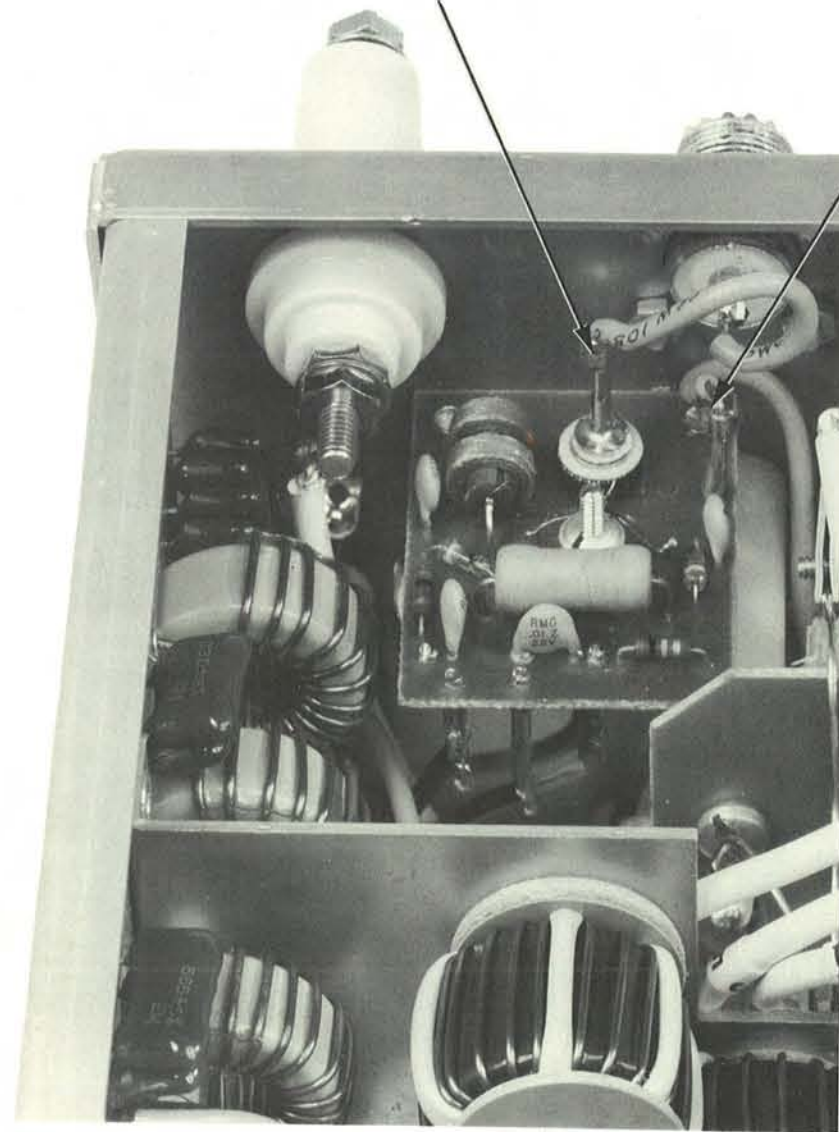

Figure 2-7. Connections for 50 Ohm Output
The 50 Ohm output of the TR-M is accessible by way of an SO-239 receptacle. The TR-M is shipped with the 50 Ohm output connected to the SO-239 and the Antenna Coupler disconnected. This 50 Ohm output is needed for adjustment when setting up the TR-M on the desired channels. When channelization is completed, the TR-M is ready for operation if the 50 Ohm output is to be used exclusively. Figure 2-7 illustrates the proper connections required for 50 Ohm output.
- b. After the desired crystals have been installed and necessary adjustments made, refer to figure 2-7. Locate the short lead from the SO-239 receptacle to the Power Detector PC board. The end of this lead going to the Power Detector board should be disconnected. No soldering iron is needed as this lead plugs into the terminal on the board.